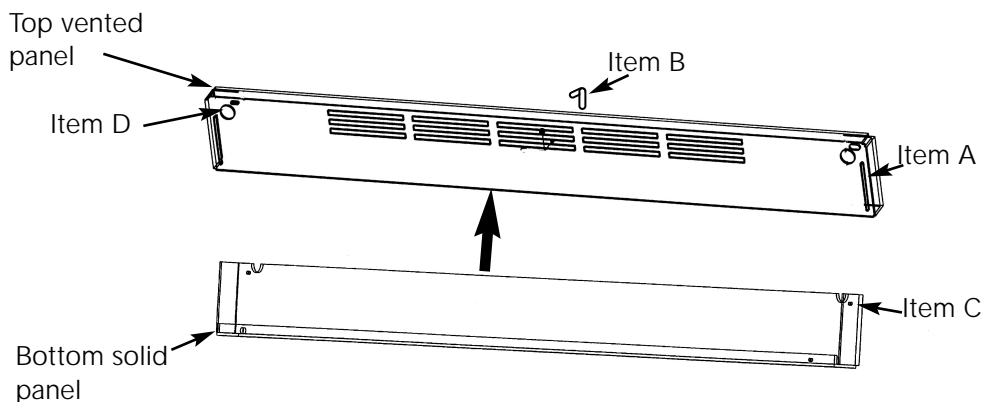

Figure 1
1. Remove exterior shipping materials prior to moving refrigerator into home. Remove top and bottom strap (see Figure 1).
2. Remove top cap (see Figure 1).
1. Assemble air ducts to 72" grille using the supplied 16 screws. (See Figure 1)